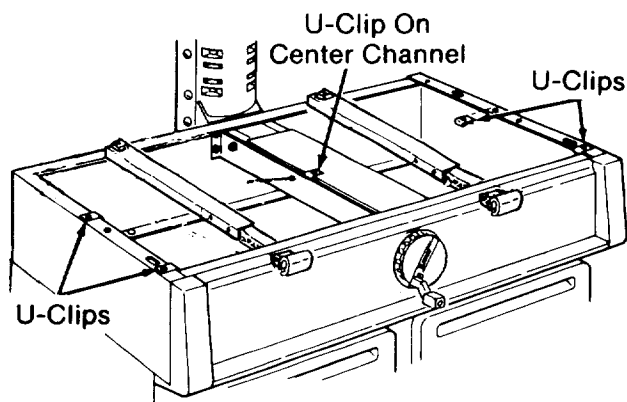

Fig. 57
2. Slide four *U-clips* over the holes in the *saw* as shown. (Figure 57)
3. Slide one *U-clip* over the hole in the left side of the center channel as shown. (Figure 57)